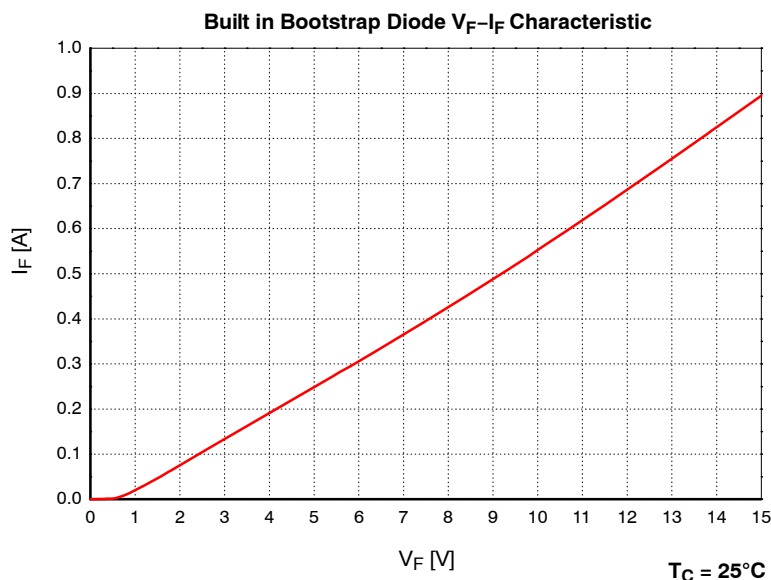

Figure 2. Built in Bootstrap Diode Characteristics (Typical)
- Built in bootstrap diode includes around 15 Ω resistance characteristic. Please refer to Figure 2.